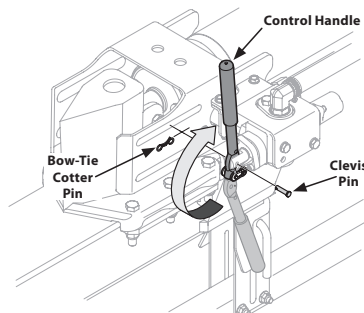

Figure 9
22. Remove the clevis pin and bow-tie cotter pin from the control handle. See Figure 9.
23. Rotate the control handle into the operating position and secure with the clevis pin and bow-tie cotter pin removed in Step 22. See Figure 9.